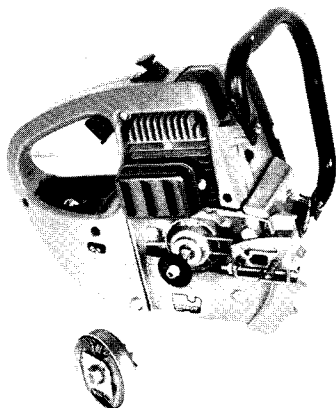

Fig. 10 — Clutch Assembly Removed
2. With an impact wrench, rotate clutch assembly clockwise on crankshaft and remove clutch, Fig. 10.
19. Install clutch assembly, Fig. 10.